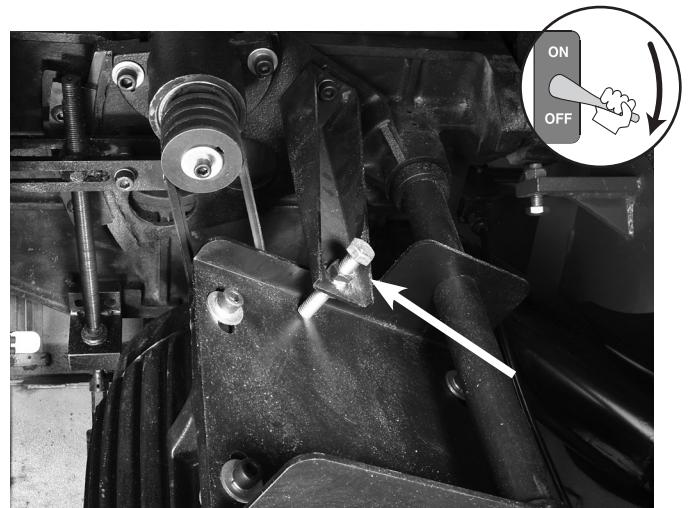

Figure 90. V-belt tension bolt.
4. Loosen the tension bolt (**Figure 90**) and pivot the motor up to remove the V-belts. Note—You may need to use a hydraulic bottle jack to lift the motor.